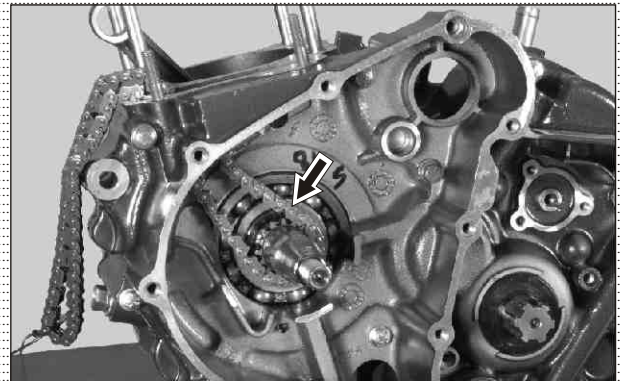

Fig. 3.92
- Remove chain complete camshaft drive. (Fig. 3.92)